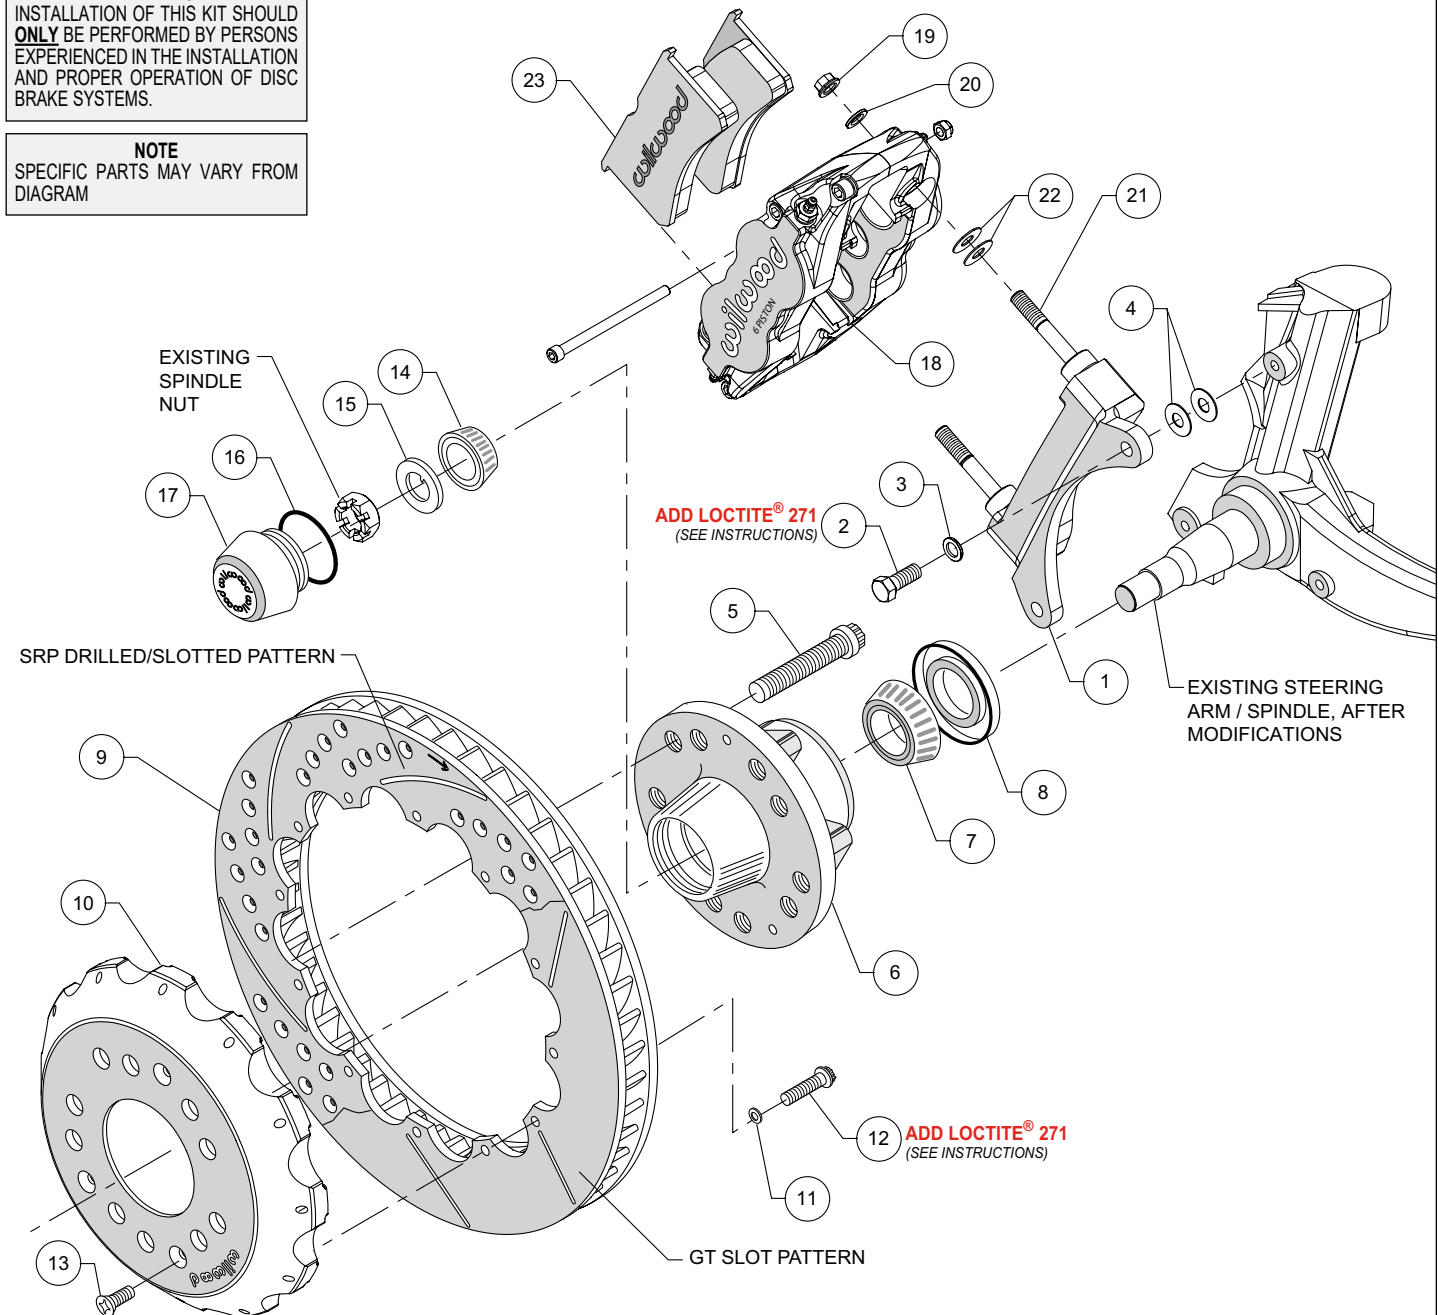
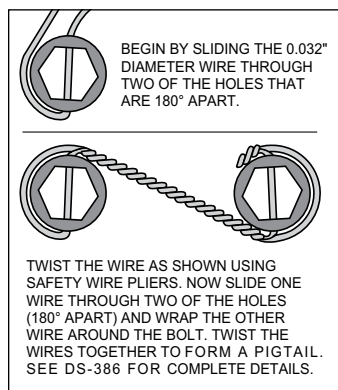

Figure 2. Typical Installation Configuration
Figure 4. Safety Wire Diagram
NOTE: Numbers in parenthesis refer to the parts list and Figure 2 on the preceding pages.
- The caliper mount bracket (1) should initially be installed with clean, dry threads on the mounting bolts. Orient the bracket as shown in Figure 2 and Photo 1, and install using bolts (2) and washers (3). Initially place two .035" thick shims (4) on each bolt between the bracket and upright, Figure 2. Temporarily tighten the mounting bolts. **NOTE:** The bracket must fit squarely against the mounting points on the spindle. Inspect for interference from casting irregularities, machining ridges, burrs, etc. Later, after the caliper alignment has been checked, the mount bolts will be secured using red *Loctite*® 271.
- Install wheel studs (5) into the hub (6), Photo 2. Torque to 77 ft-lb. **NOTE:** There are two five lug patterns in the hub (5 x 4.50 and 5 x 4.75). Ensure the correct hub stud pattern is being used to fit the wheel application.
- Pack the large inner bearing cone (7) with high temperature disc brake bearing grease (available from your local auto parts store) and install into the backside of the hub (6), Photo 3.
- Install the grease seal (8) by pressing into the backside of the hub (6), flush with the end of the hub, Photo 3.
- Orient the rotor (9) and the hat (10) as shown in Figure 2 and Photo 4. Attach rotor to hat using bolts (12) and washers (11). Apply red *Loctite*® 271 to the bolt threads and torque to 155 in-lb using a criss-cross pattern. For an added measure of security, the bolts may be safety wired using standard 0.032 inch diameter stainless steel safety wire as shown in Figure 4. Refer to Wilwood's data sheet DS-386 (available at www.wilwood.com/Pdf/DataSheets/ds386.pdf) for complete safety wire installation instructions.
- Pack the small outer bearing cone (14) with high temperature disc brake bearing grease and install into hub (6). Slide the hub assembly onto the spindle. Secure using spindle washer (15) and OEM spindle nut, Photo 5. Adjust bearings per OEM specifications. Install saved OEM nut lock (if any) and a new cotter pin (not included).
- Screw dust cap (17) into hub (6), Photo 6. Friction created by the o-ring (16) on the dust cap keeps it from unscrewing. **NOTE:** The O.D. of the existing OEM spindle washer may be larger than the I.D. of the dust cap not allowing it to seat against the hub face. Therefore, use the spindle washer (15) supplied with the kit instead of the OEM washer.
- Slide the hat/rotor assembly (9/10) onto the hub (6) taking care to align the small countersunk holes in the hat (10) with the small threaded holes in the hub. **NOTE:** The hat must fit flush against
- NOTE:** This kit contains distinct right and left hand calipers that must be mounted in a specific direction, as described below. Initially place two .035" thick shims (22) on each stud (21) between the caliper and the bracket, as shown in Figure 2 and Photo 7. Mount the caliper (18)
onto the bracket (1) using lock nuts (19) and washers (20), Figure 2. Ensure that the caliper is mounted so the largest pistons are at the rotor exit end of the caliper, in relation to the direction of rotor rotation. Temporarily tighten the lock nuts and view the rotor through the top opening of the caliper. The rotor should be centered in the caliper, Photo 8. If not, adjust by adding or subtracting shims (4) between the bracket and the spindle. Always use the same amount of shims on each of the two mounting bolts. Once the caliper alignment is correct, remove the bracket mounting bolts one at a time, apply red *Loctite*® 271 to the threads, and torque to 40 ft-lb.